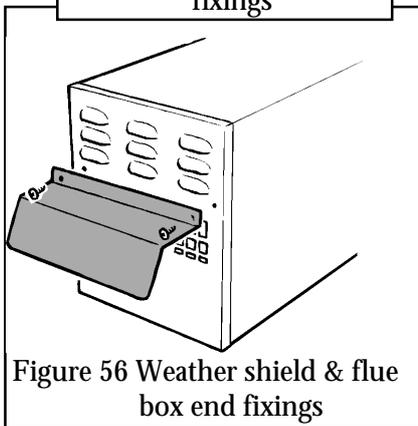

Figure 56 Weather shield & flue box end fixings
15.12.2 Detach the weather shield and flue box end plate by removing two screws (see figure 56).